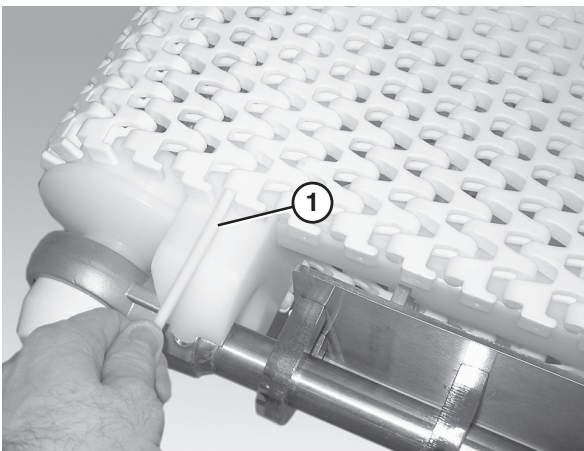

Figure 30
4. Insert the belt rod (**Figure 30**, item 1).